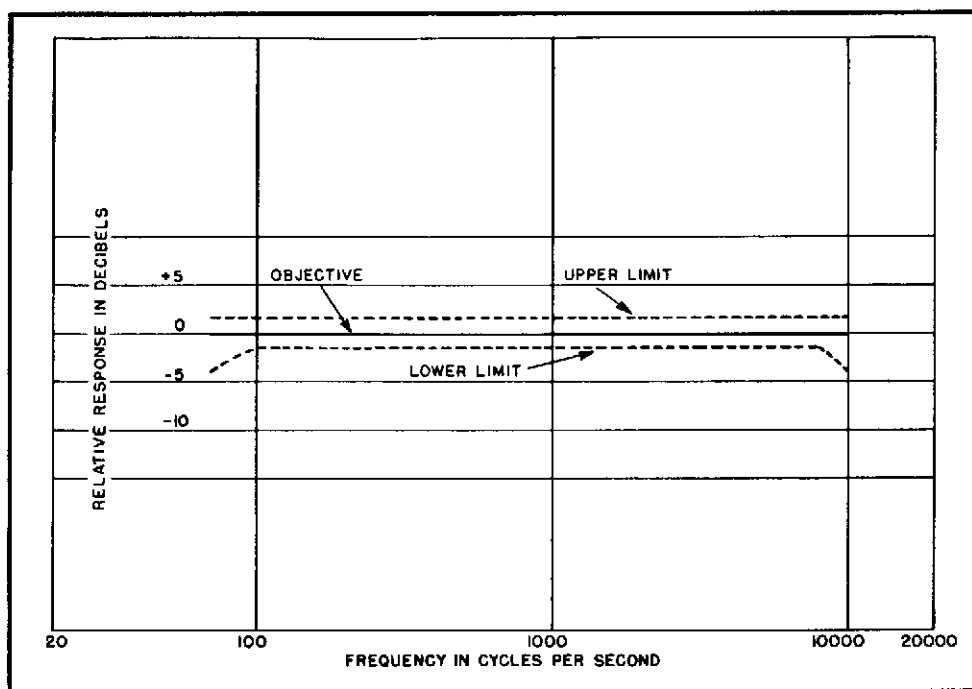

Figure 3-4. Amplifier Frequency Response Characteristics
e. All measurements should be made with the amplifier operating from 115-volt, 60-cycle supply, otherwise readings shown in figure 3-4 will be erroneous.